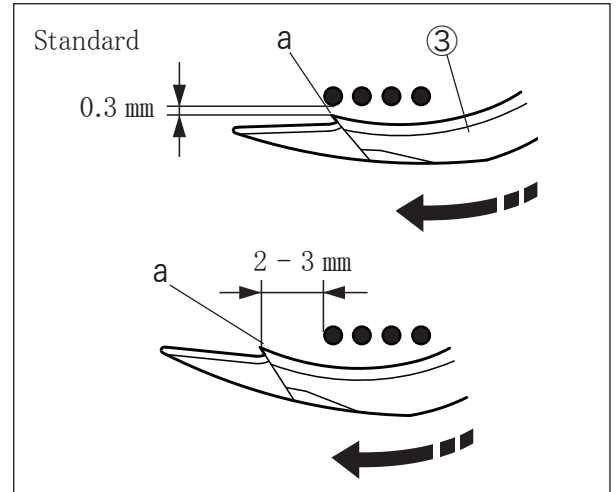

Fig. 6-30
- (3) Make the clearance between the left needle and the hook “a” of the spreader ③ to 0.3 mm , when the spreader ③ moves from right to left. Then tighten the screw ④ securely. (Fig. 6-30)
- (4) Make the distance between the left side of the left needle and the hook “a” to 2 - 3 mm when the spreader ③ is at the extreme left. Then tighten the screw ⑤ securely. (Fig. 6-30 and 6-32)